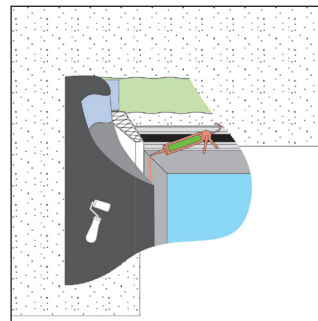

Fig 3: Application of OT015 Paste Adhesive
- To achieve a quicker, more accurate and economical application, we recommend using OT015 Paste Adhesive when bonding to non-porous materials (see Fig. 3).